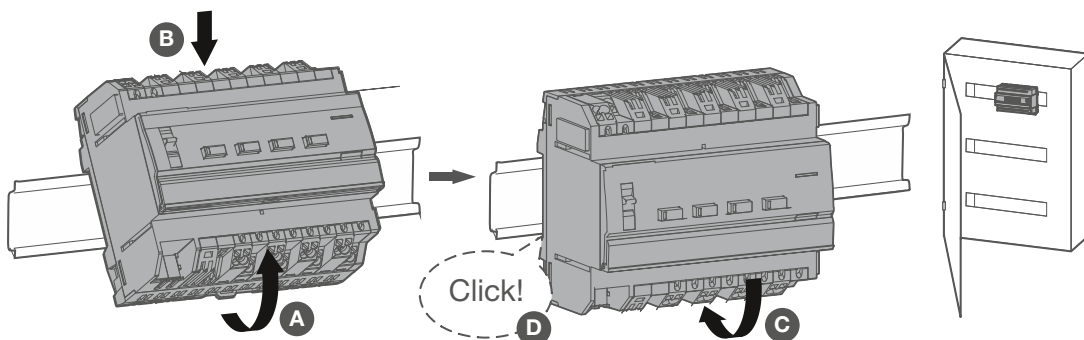

Fig. 5: Mount the device on the DIN rail
- Installation on DIN rail after TH 35 7.5-15 according to IEC 60715:2017 / EN 60715:2017 (Fig. 5: Mount the device on the DIN rail)